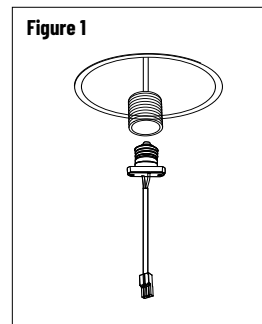

Figure 1
3. Screw medium base socket adapter into medium base socket. (Figure 1)